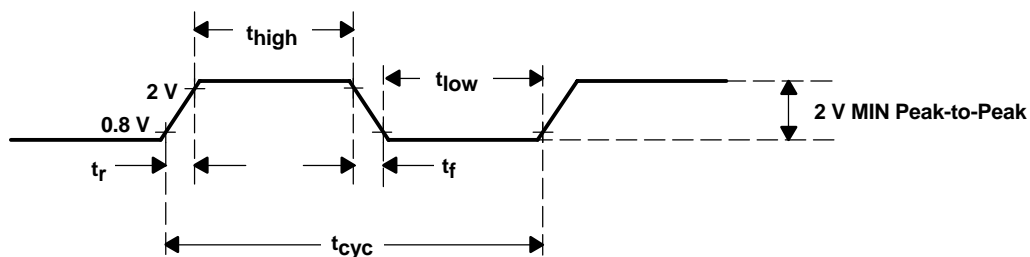
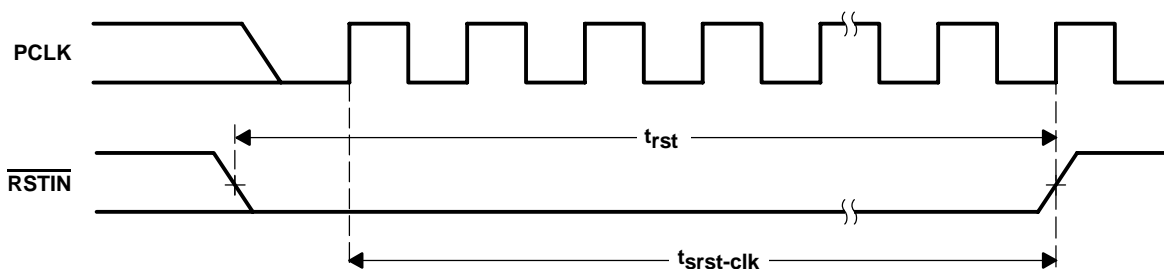

Figure 23. PCLK Timing Waveform
Figure 24.  $\overline{RSTIN}$  Timing Waveforms
**PCI clock/reset timing requirements over recommended ranges of supply voltage and operating free-air temperature (see Figure 23 and Figure 24)**